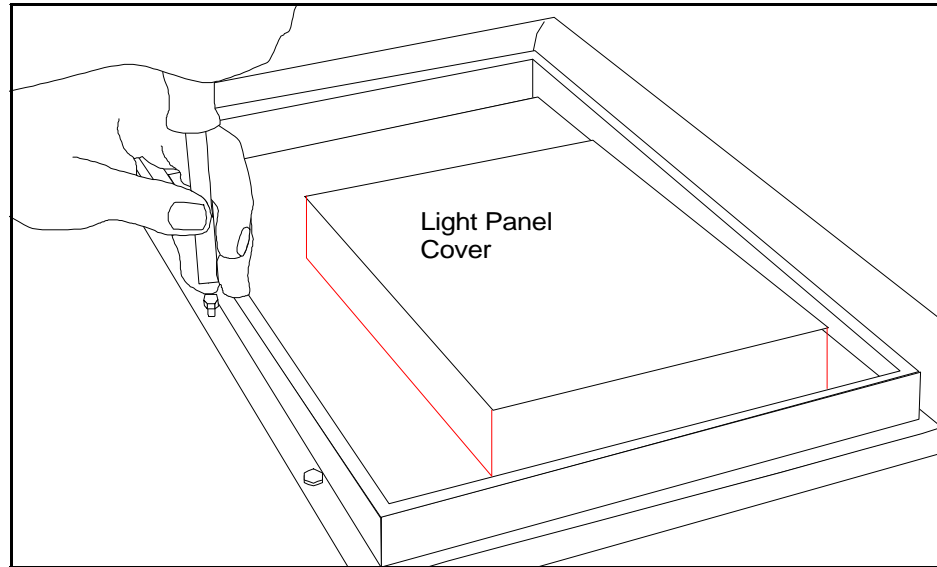

Figure 2-7 Installing the Authorization Light Panel (PN 887124-001)
4. With the back of the authorization light panel facing toward you, install the device in the bezel. See Figure 2-7.